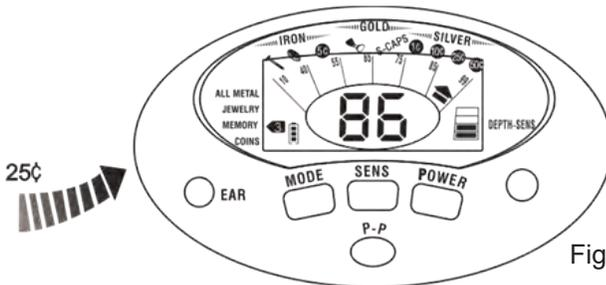

Fig.14
- e) When sweeping the other three samples, the detector won't respond. (See Fig.14, take 25 ¢ as an example)